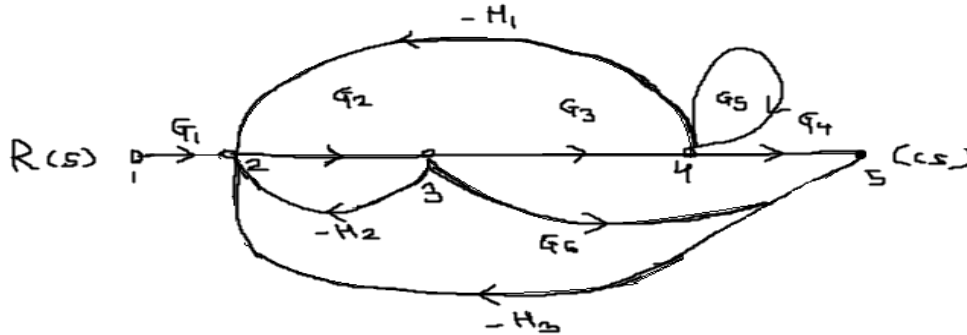

Fig. 2
b) Determine the overall gain $C(S)/R(S)$ for the signal flow graph as shown in fig.2